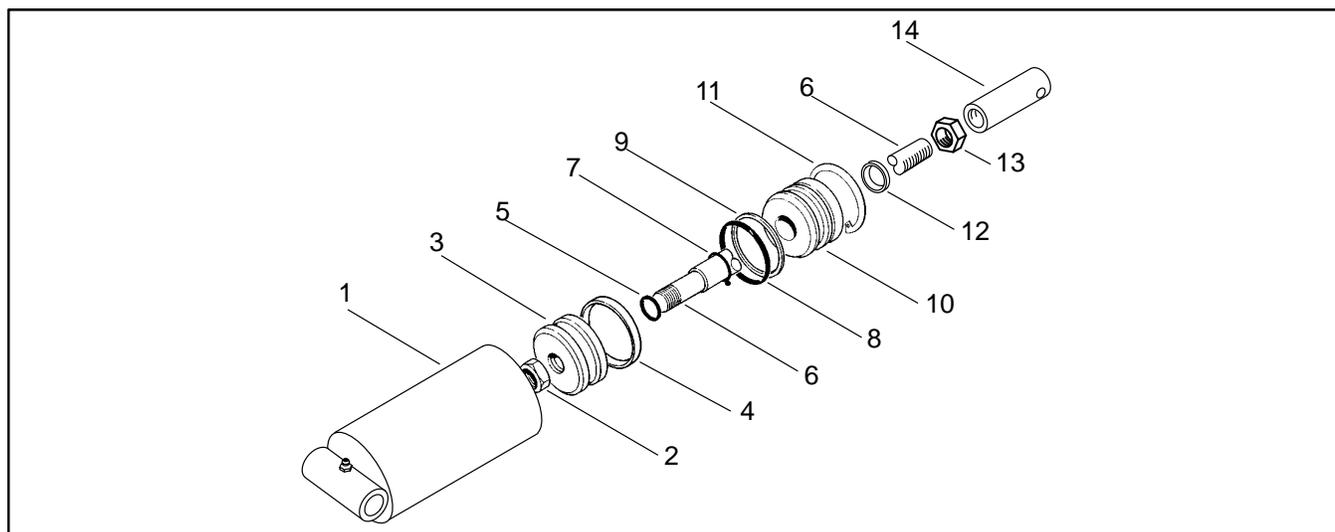

Figure 64
- B. Remove cotter pin (11) from clevis pin (12). Slide clevis pin out of the lift arm (13) removing flat washers (14) (Fig. 64).
- D. Loosen jam nut (13) and adjust rod clevis (14) as necessary (Fig. 64). Tighten jam nut.
**Disassembly (Fig. 64)**
1. Remove oil from cylinder into a drain pan by **slowly** pumping the cylinder shaft (6). Plug both ports and clean the outside of the lift cylinder.
**IMPORTANT: Prevent damage when clamping the lift cylinder into a vise; clamp on the pivot end only. Do not close vise enough to distort the barrel (1).**
2. Mount lift cylinder in a vise so that the shaft (6) end tilts up slightly.
3. Remove retaining ring (11) from the barrel (1).
4. Grasp clevis rod (14); extract shaft (6), head (10), and piston (3) by carefully twisting and pulling on the shaft out from the barrel (1).
5. Mount shaft (6) securely in a vise. Remove locknut (2) and piston (3) from the shaft. Slide head (10) off the shaft.
6. Remove and discard uni-ring (4) and O-ring (5) from the piston (3). Remove and discard dust seal (12), backup washer (9), and O-rings (7 and 8) from the head (10).
**Note:** If the rod clevis (14) is to be removed from the shaft (6), note the number of threads exposed between the jam nut (13) and the smooth surface of the shaft to help reassembly.
7. Loosen jam nut (13) and remove clevis if necessary.
**Inspection (Fig. 64)**
2. Inspect internal surface of barrel (1) for deep scratches, out-of-roundness, and bending. Replace if worn or damaged.
3. Inspect head (10), shaft (6), and piston (3) for excessive pitting, scoring, and wear. Replace any worn or damaged parts.
**Reassembly (Fig. 64)**
1. Coat new dust seal, uni-ring, backup washer, and all O-rings lightly with hydraulic oil. Install new O-ring (5) and uni-ring (4) to the piston (3). Install O-rings (7) and (8) and backup washer (9) to the head (10). Press dust seal (12) into head (10).
**IMPORTANT: Do not clamp vise jaws against shaft (6) surface. Protect shaft surface before mounting in the vise.**
2. Mount shaft (6) securely in a vise. Adjust clevis (14) and jam nut (13) so the number of threads exposed between the jam nut (13) and the smooth surface of the shaft is the same as noted during disassembly. The jam nut must be tight against rod clevis for this adjustment.
3. Coat shaft (6) lightly with hydraulic oil. Slide head (10) onto the shaft being careful not to damage O-ring (7) and dust seal (12).
4. Install piston (3) onto the shaft being careful not to damage O-ring (5). Install locknut (2) onto the shaft and tighten.
5. Remove shaft (6) from the vise.
**IMPORTANT: Prevent damage when clamping the barrel (1) into a vise; clamp on the pivot end only. Do not close vise enough to distort barrel.**
6. Mount barrel (1) in a vise so that the shaft end tilts up slightly.
7. Coat all internal lift cylinder parts with a light coat of hydraulic oil. Slide piston (3), shaft (6), and head (10) assembly into barrel (1) being careful not to damage the seals.
8. Secure head (3) in barrel (11) by installing retaining ring (1) into barrel groove.